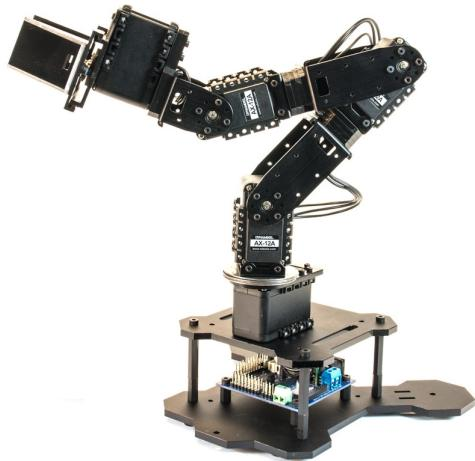

Figure 2.1: Phantom X Pincher Arm
- (i) get familiar with the hardware and capabilities of the Phantom X Pincher arm, shown in Figure 2.1 and manufactured by Trossen Robotics, which will be utilized for this project;
- (a) Mark all the joints and links in Figure 2.1 or any other image of the arm.